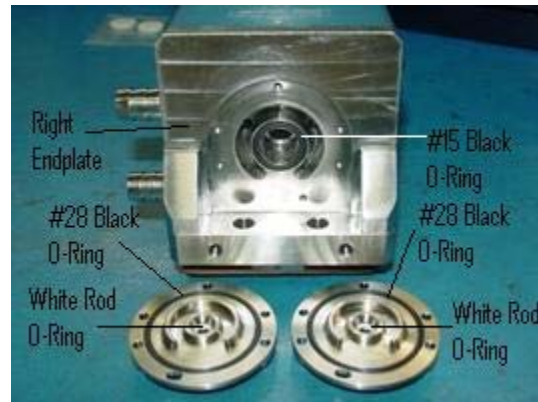

Figure 5-3 REA-XXXX-002X O-rings
8. Each insert has one large o-ring groove on the surface near the edge of the insert this is the inside surface of the insert, Figure 5-3 shows correct installation of the #28 black o-ring into this groove.
10. Place a #15 black medium o-ring in the matching groove on the right endplate of the module, as shown in Figure 5-3, that has the two hose barbs and then lubricate with the methanol syringe.
16. Fasten each of the two inserts to their endplates with five #4 sized 3/8" SHC Screws and one #4 sized 3/8" BHC Screw that goes in the slotted hole, shown in Figure 5-3, of each insert.